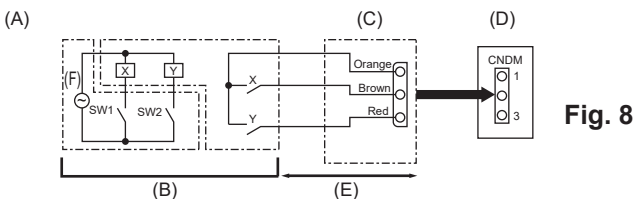

Fig. 8
8.1. Low noise mode (on-site modification) (Fig. 8)
8.2. Demand function (on-site modification) (Fig. 8)